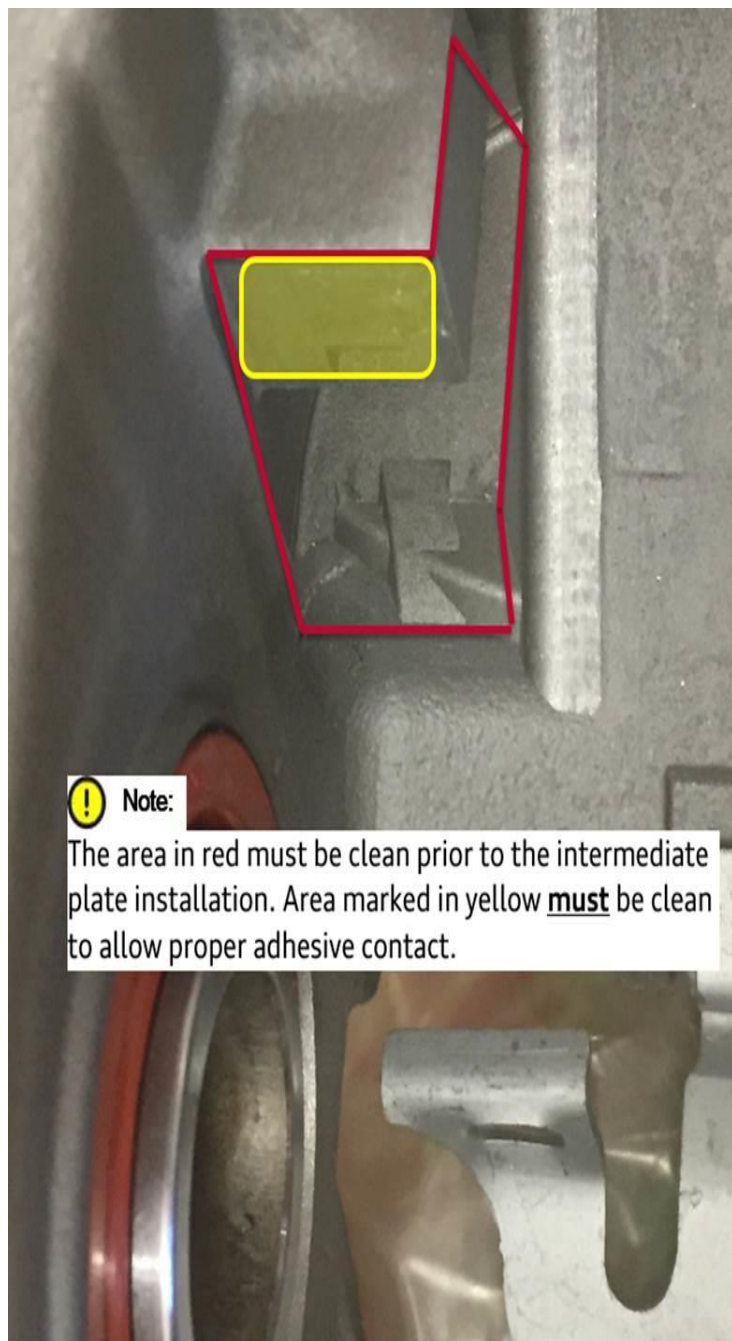

Figure 7. Intermediate plate installation area.
E. Before the installation of the new intermediate plates (Figure 6), clean the caliper area where the intermediate plates will be installed (Figure 7).